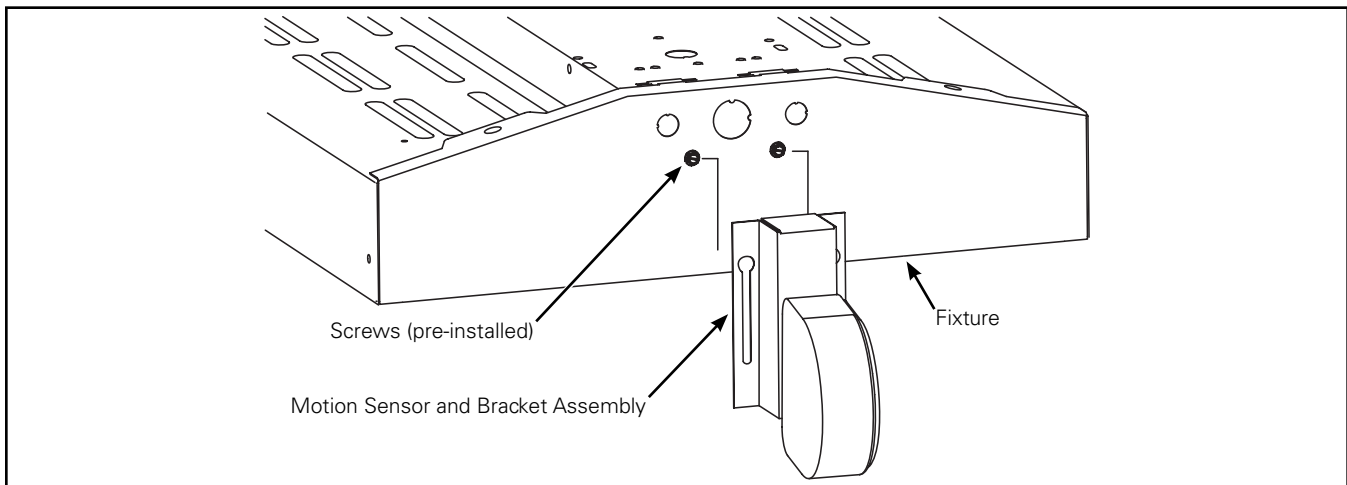

Figure 1.
1. Insert motion sensor and bracket to pre-installed screws on fixture endplate (Figure 1.).